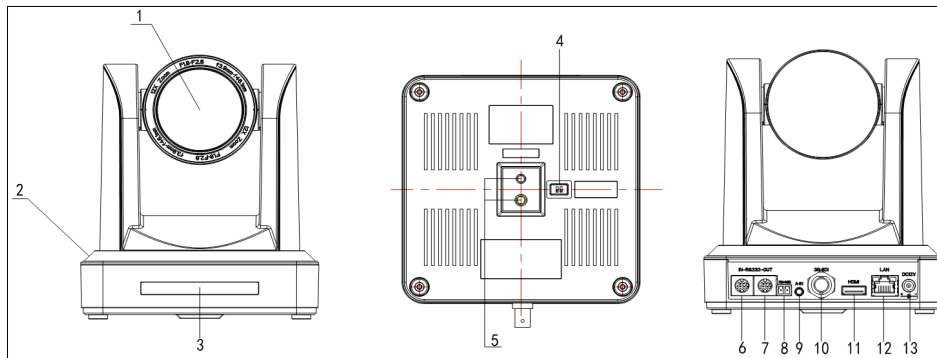

Figure 1.1 Interface
- a. Network Cable Connection Port: No.12 in Figure1.1.
- a. HDMI Video Cable Connection: No.11 in Figure1.1.
- a. 3G-SDI video cable connection: No.10 in Figure1.1